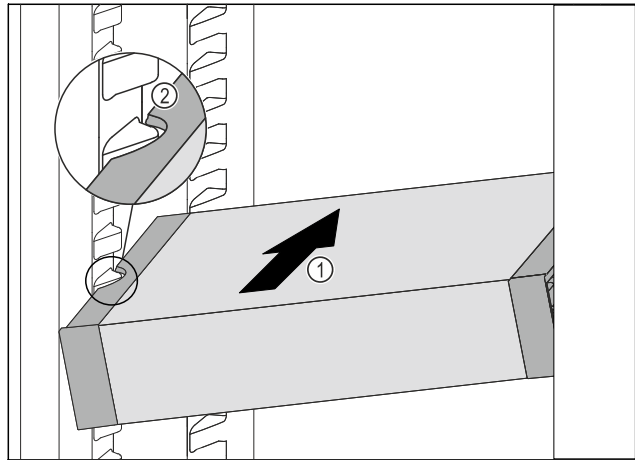

Fig. 79
- ▶ Insert the VarioSafe into the fridge section at an angle Fig. 79 (1) until the recesses in the side Fig. 79 (2) of the VarioSafe are at the level of the support rib in the fridge section.